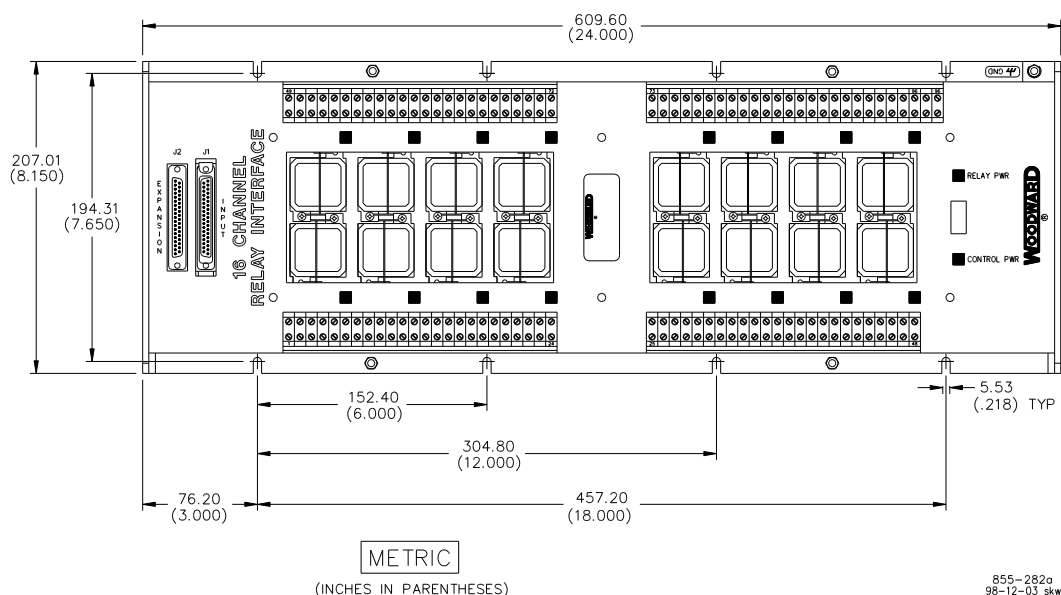

Figure 14-2. 16 Channel Relay Box Outline Drawing
1. Mark the location of the relay box and the locations of the holes to be drilled to mount it. Figures 14-2 and 14-3 are outline drawings of the relay boxes.